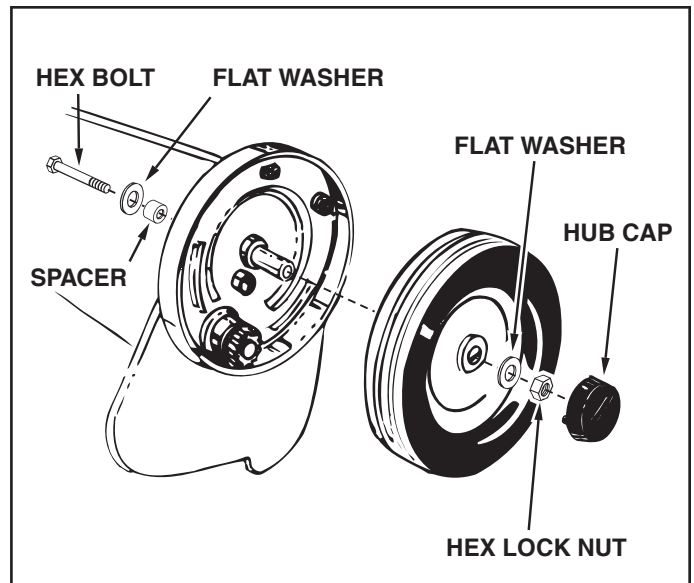

FIGURE 24
- Every two years, remove the wheels and clean the gears found inside the wheel housing. After cleaning, lubricate with an even coat of light grease. To remove the wheel, pop off the hub cap using a screwdriver and remove the lock nut and flat washer. See figure 24.